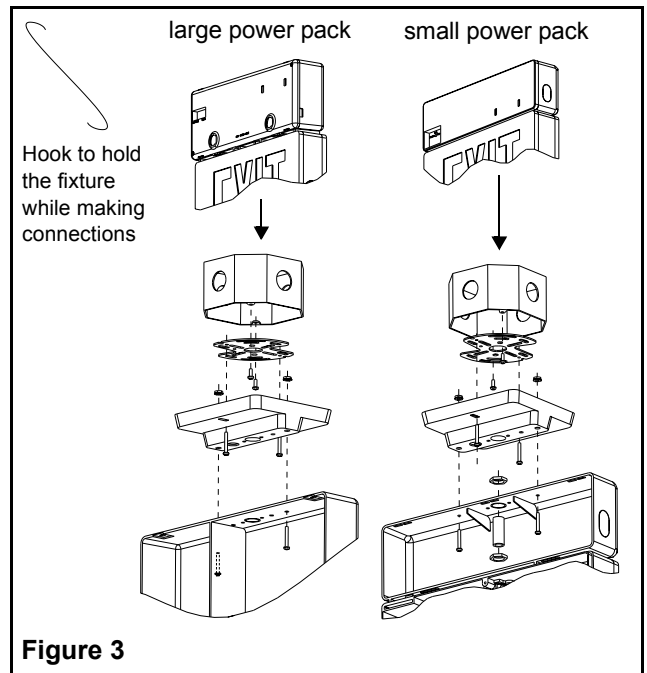

Figure 3
- b. Depending on the model, there are two possible power pack housings with this unit, with or without heads (see fig. 3).
Large power pack — Use the two #8-32 x 3/4" screws with lock nuts to mount the canopy (see fig. 3).
Small power pack — Use a threaded nipple and two hexagonal nuts as well as two #6-32 x 1" screws with lock nuts to mount the canopy (see fig. 3).